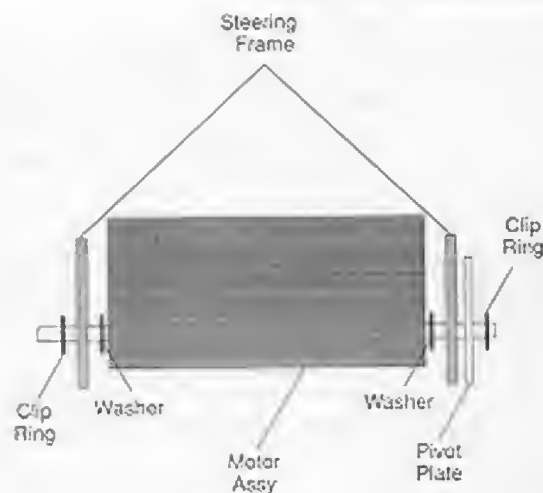

Figure 3-4 Installing the Steering Pivot Shaft
3. Push the pivot shaft through the frame, washers, motor, and pivot shaft as shown in Figure 3-4. Install the 1/2-inch retaining rings on the ends of the pivot shaft as shown in the figure.